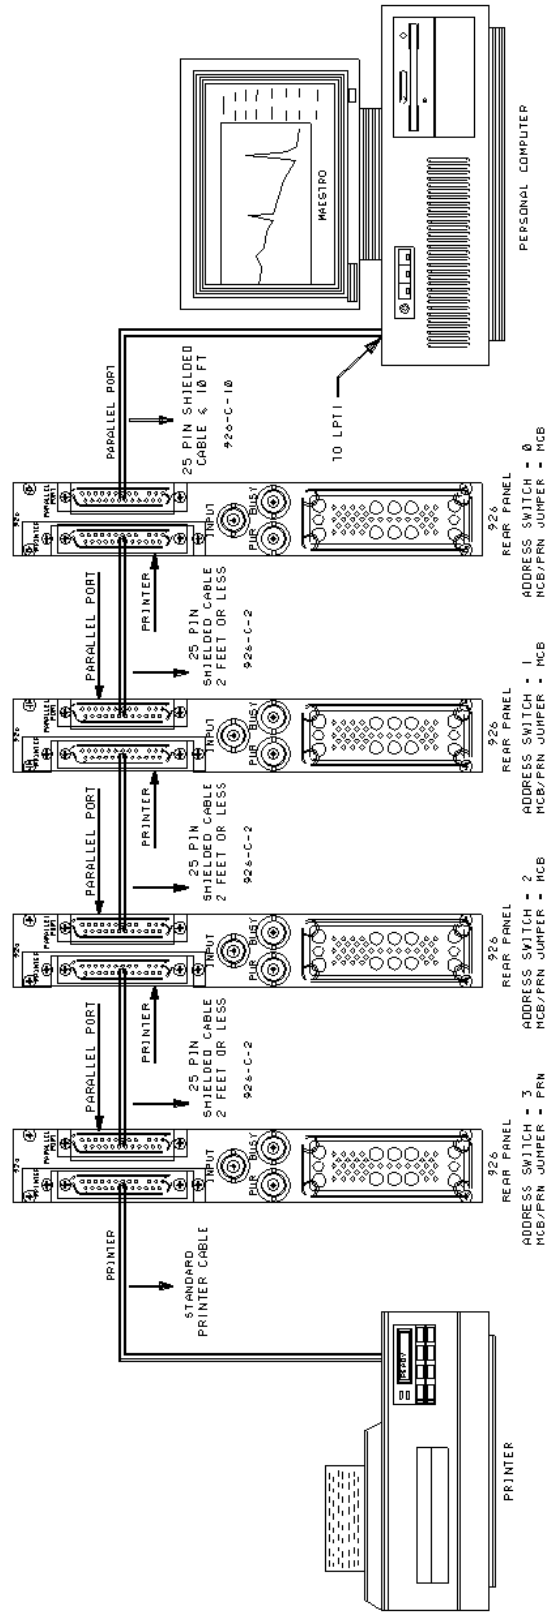

Fig. 4. Printer Port System with Four 926s.
6. Carefully plug the Printer Option in to the row of pins close to the rear panel (see Figure 4). The connector is keyed for proper installation.